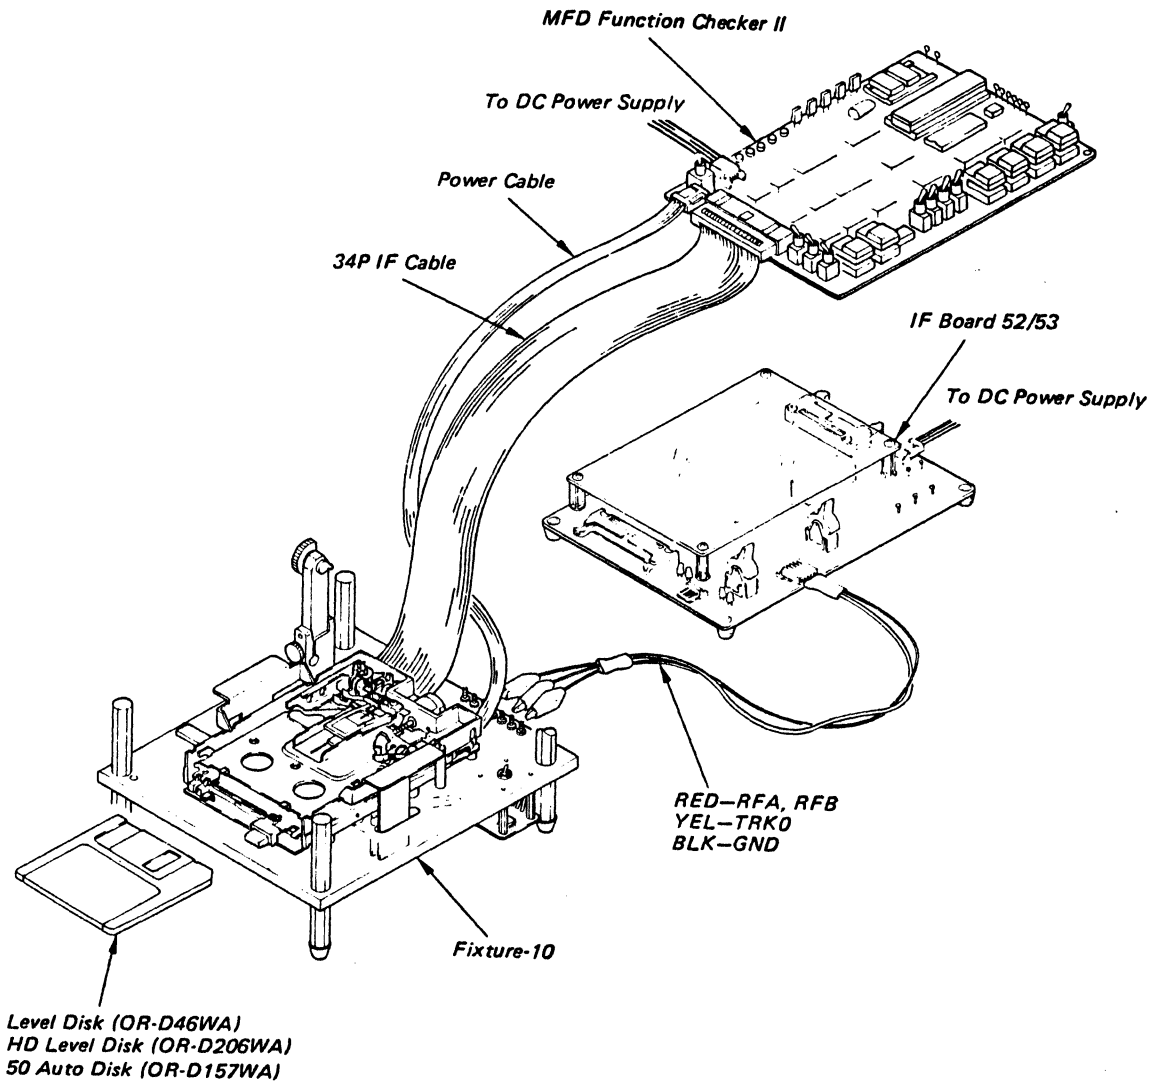

Fig. 2-14 Configuration for Function Check
- a. Connect the drive to MFD Function Checker II. (Refer to Fig. 2-14)